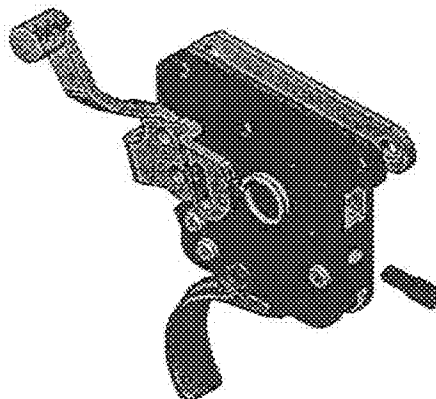

Figure 5
4. Slide the safety assembly's offset leg over the post on the blocker. Before allowing the post to snap into the slot on the safety, insert the short leg of the **safety detent spring** into the hole in the blocker and align the long leg of the spring with the small hole in the safety assembly as shown in Figure 5.